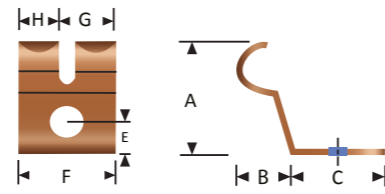

Figure 99 : Example of finger under 90 degrees
- 99 For special constructions** the 2500 series show fingers mounted under an 90 degree angle. (Fig. 99)